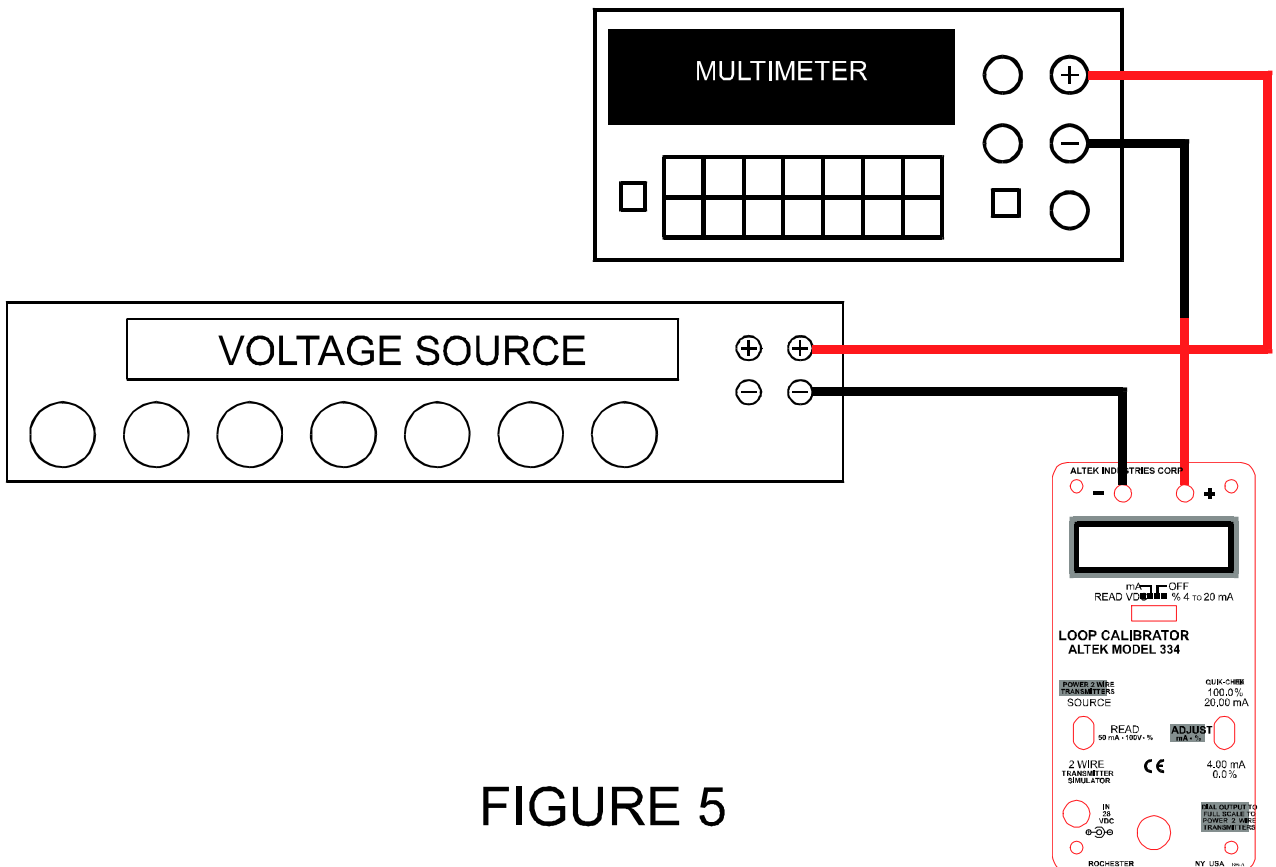

FIGURE 5
1. Connect the UUT as shown in Figure 5.